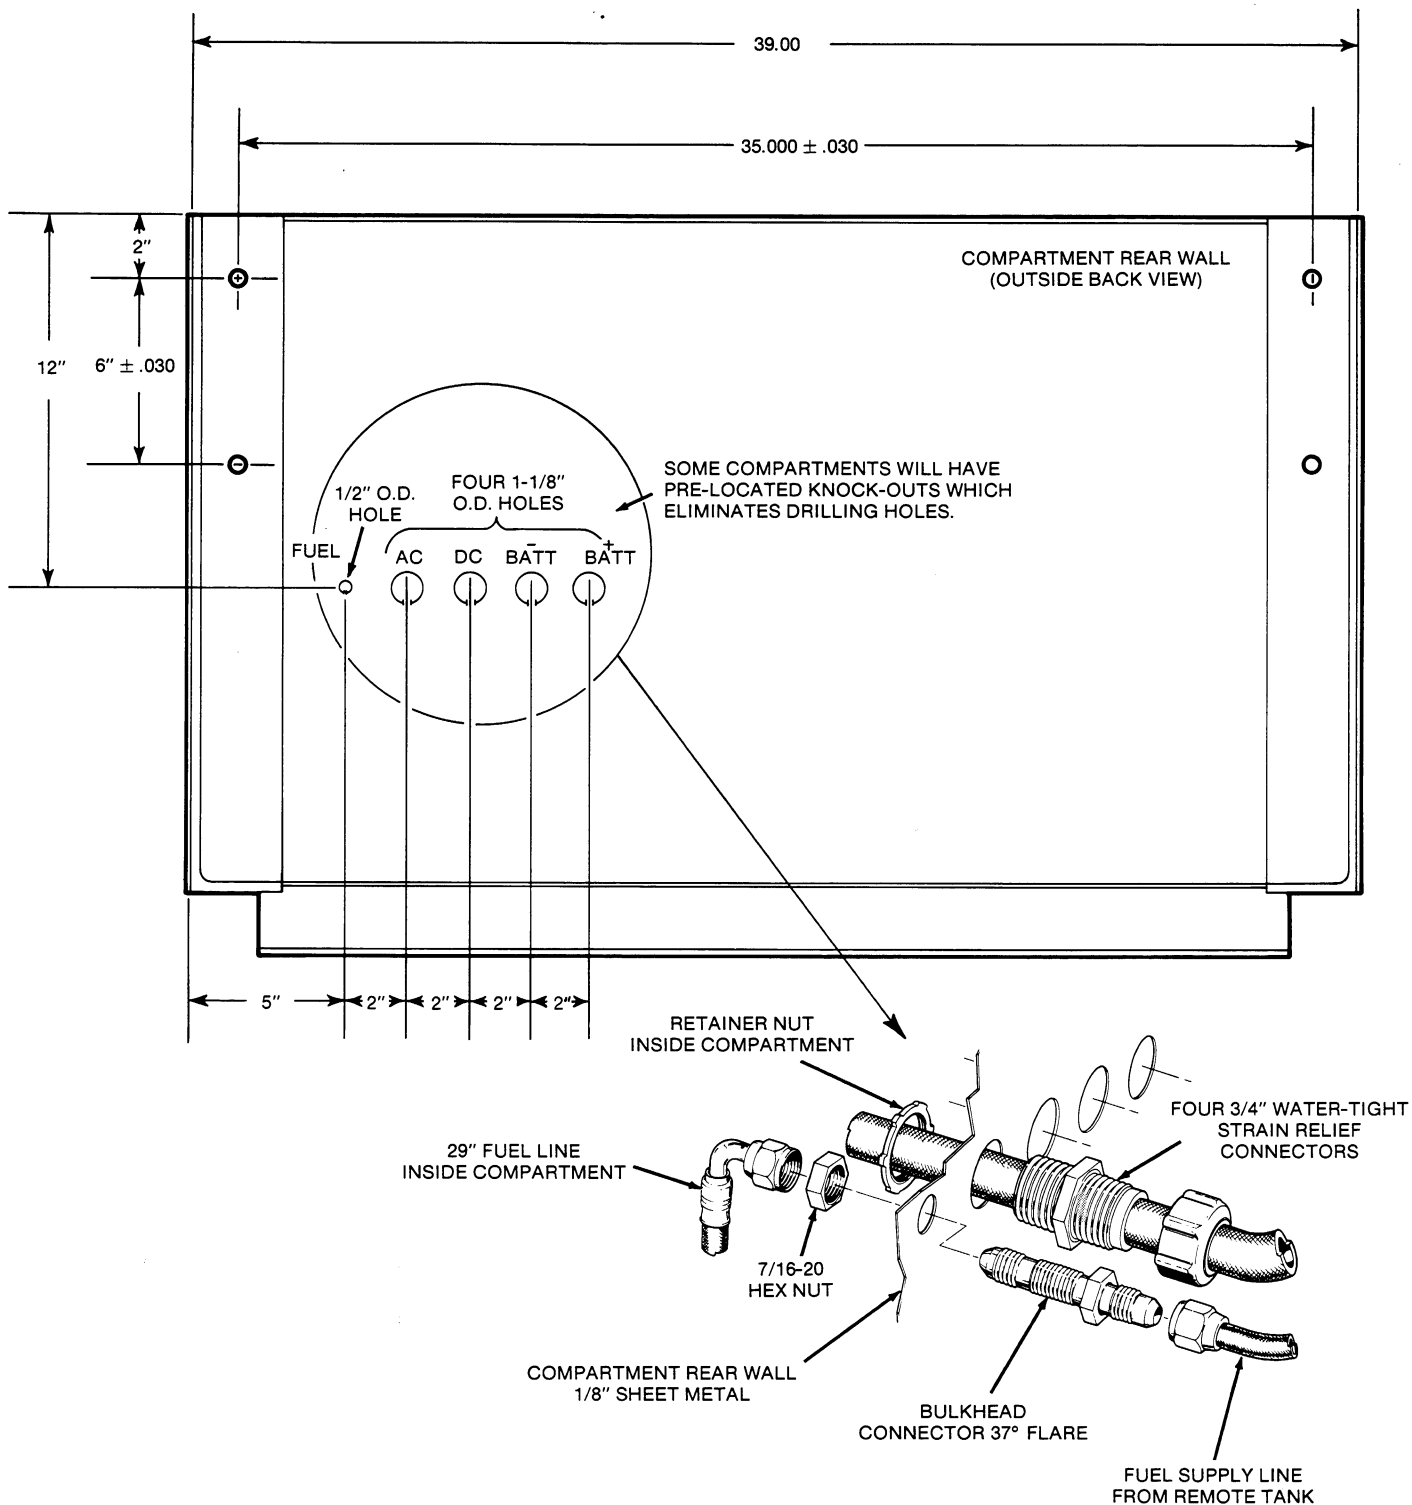

FIGURE 5. COMPARTMENT ACCESS HOLE LOCATION FOR SIDE-MOUNTED INSTALLATIONS ONLY
Five access holes must be punched in rear wall of compartment for entry of fuel supply line, AC wiring, DC wiring and both battery cables. Refer to Figure 5 for location, size and suggested function of each hole required.
Some compartments may have knockouts provided in rear wall of compartment to simplify the installation. If so, location and size is the same as shown in Figure 5.
2. Locate and punch four additional (1-1/8 inch O.D) compartment access holes in a horizontal row 2 inches apart (center-to-center) from first hole as shown in Figure 5. These holes are used for electrical wiring and battery cable entry into compartment.
After generator compartment is installed on truck and access holes are located in compartment rear wall as shown in Figure 5, the generator set, compartment step and compartment (inside) fuel line should be installed.
1. Install 7/16-20 bulkhead connector (SAE 37° flare fitting) into 1/2 inch O.D. hole in generator end of compartment rear wall (See Figure 5). A 7/16-20 hex nut is used to hold flare fitting in place. Install nut on the inside of the compartment rear wall.